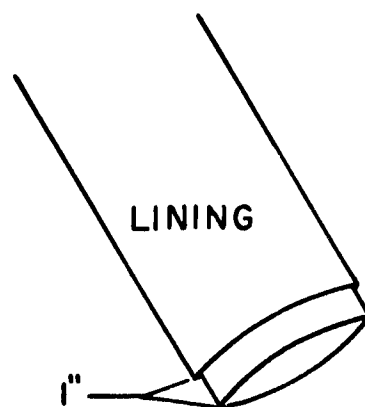

Figure 44.
12. Pull the lining down over the sleeve hem, making sure the fold of the lining is about one inch from the bottom of the sleeve (see Figure 44).